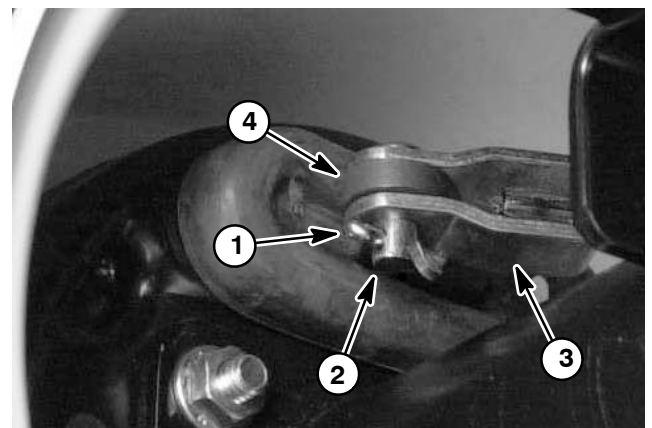

Figure 19
A. Remove cotter pin and clevis pin securing the cable bracket to the actuator lever (Fig. 19).
IMPORTANT: Brake actuator levers must be positioned above the transaxle mount. When positioned correctly, actuator lever will point toward the rear of the axle (Fig. 19).
2. Secure cable bracket to the actuator lever with clevis pin and cotter pin (Fig. 19).